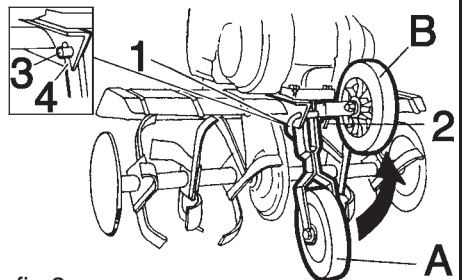

fig.3
(Fig. 3)**
- Fix the wheel support with the appropriate pin (3) and split pin (4) (Fig. 3)
Transport position must have pin 1 mounted as shown in Fig. 3.